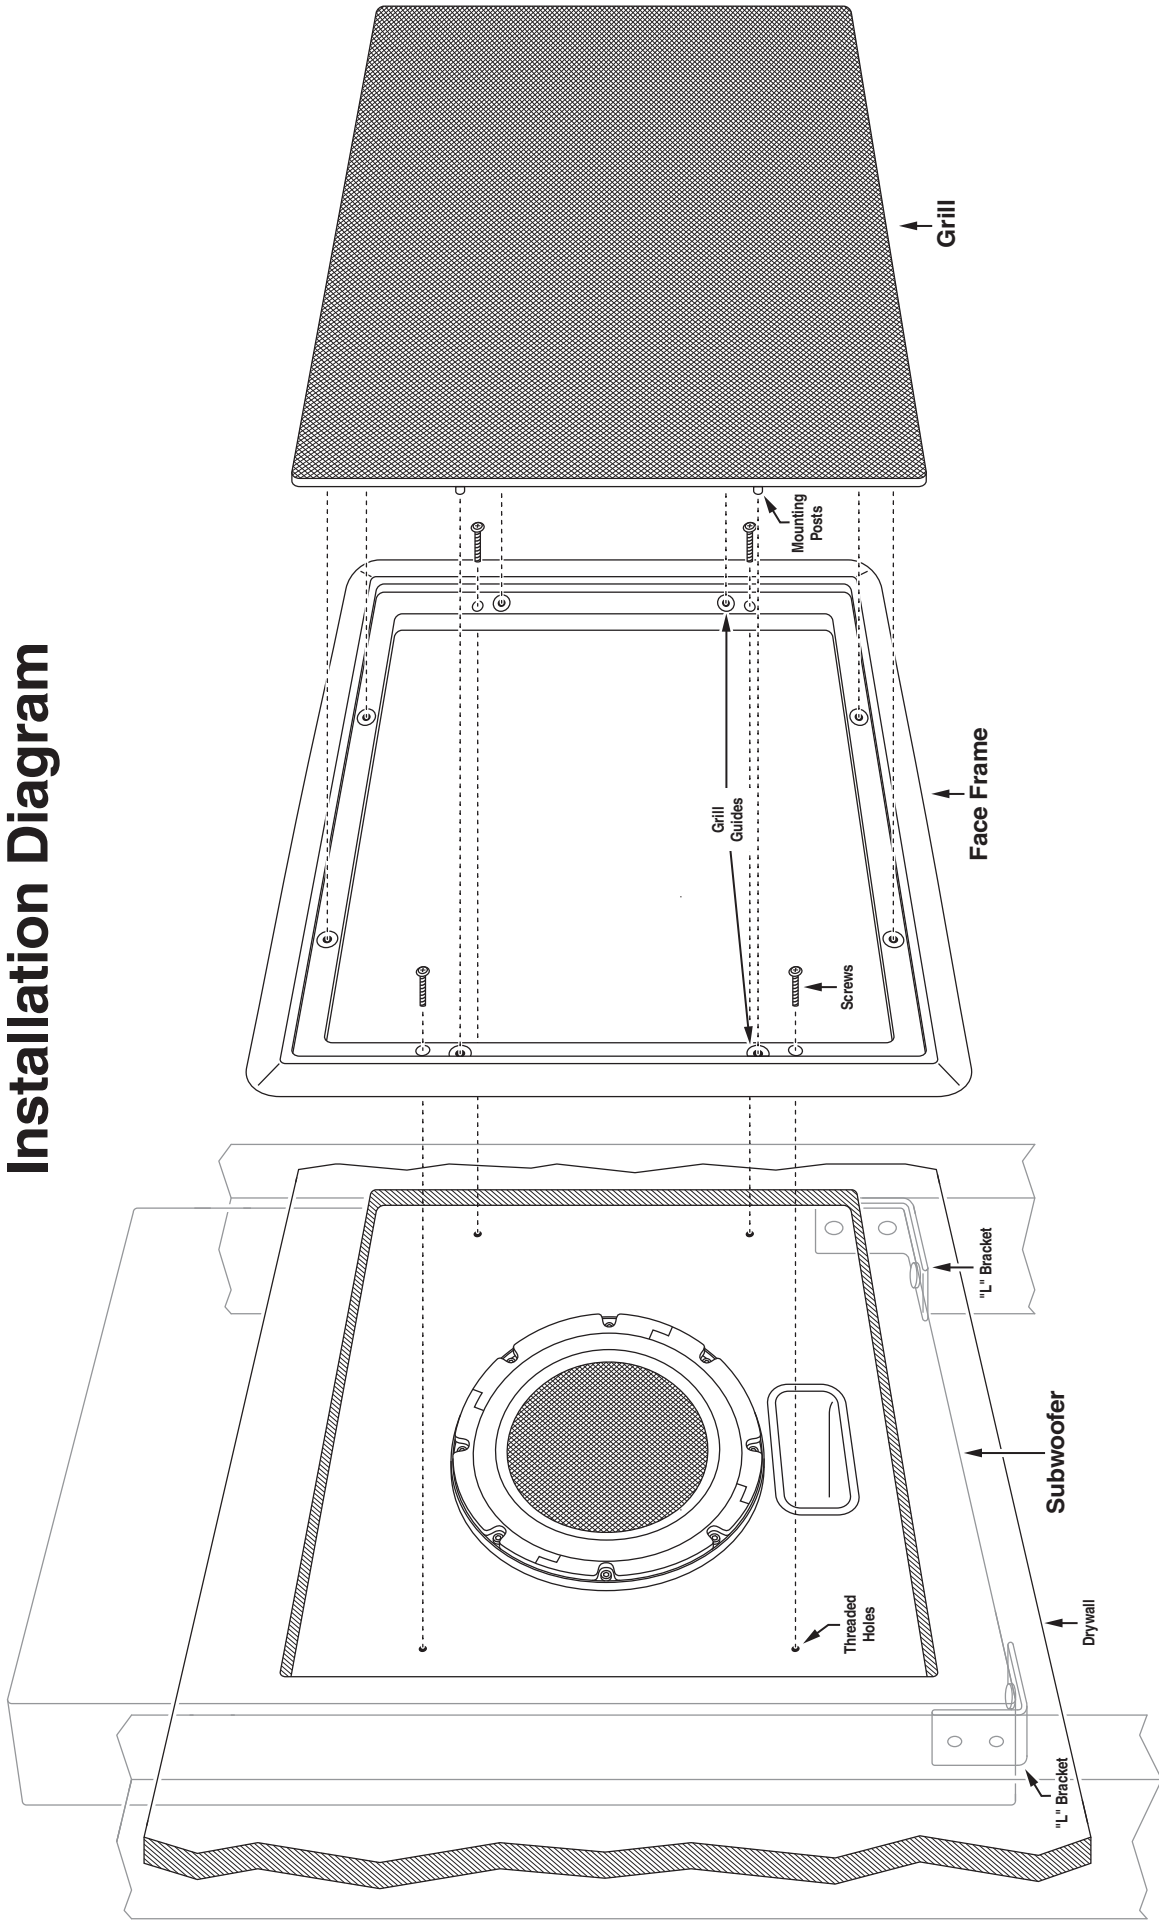

Figure 3
Step 5: Place the white speaker grill onto the face frame using the installed grill mounting posts (see figure 3). Installation is complete.